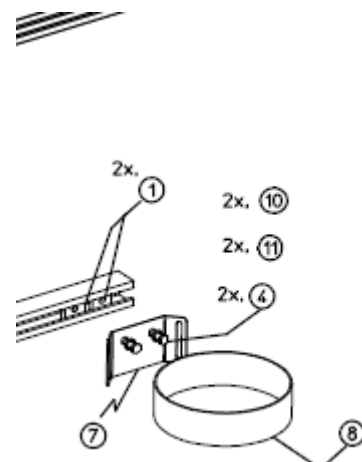

Figure 6: Helium Bracket Assembly
2. Install the other (2) 3/8" spring nuts in the locations identified in step 3.
3. Locate (4) 3/8" lock washers, (4) vibration dampers and the grounding strap (**items 11, 12 and 14**). Align the oil cooler over all (4) installed spring nuts. Insert a vibration damper (**item 12**) into each of the top cooler mounting holes to loosely hold it in place. Position one end of the grounding strap (**item 14**) over the lower-left mounting hole between the spring nut and the oil cooler, placing a lock washer (**item 11**) in front of, and behind the strap (**fig 6**). Use the other two vibration dampers to attach the bottom of the cooler to the unistrut. Ensure that all 4 vibration dampers are tight against the oil cooler.
5. Position the monitor over the vibration dampers and secure with (4) flat washers, (4) lock washers and (4) nuts (**items 10, 11 and 9**) provided with the tank/wall-mount hardware.
6. Locate items 1, 4, 7, 8, 10 and 11 (3/8" spring nut, 3/8"x 1.5" bolts, helium support bracket, helium strap, 3/8" flat washer, 3/8" lock washer) and assemble as shown above (**fig 6**).